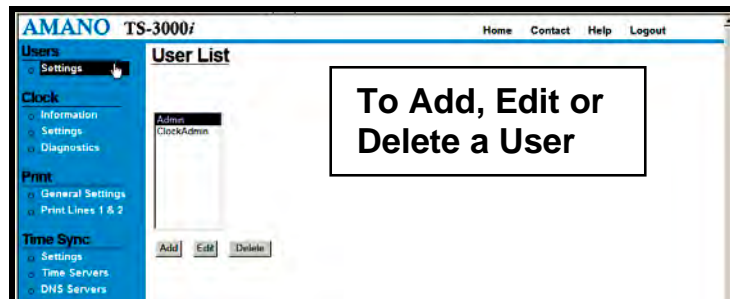

Figure 4-2: User List
- Step 1.** Log into the TS-3000i Web clock (see *Figure 3-4*) and Click on the **Settings** link under Users, and the **Users List** screen will appear (see *Figure 4-2*). Create a new user with a unique Username and Password and store this information in a secure place. Click on the **Save** button to save the new username and/or password in the clock's flash memory.
Step 1. Click on the Settings link under Users, and the **User List** screen will appear (see *Figure 4-2*).